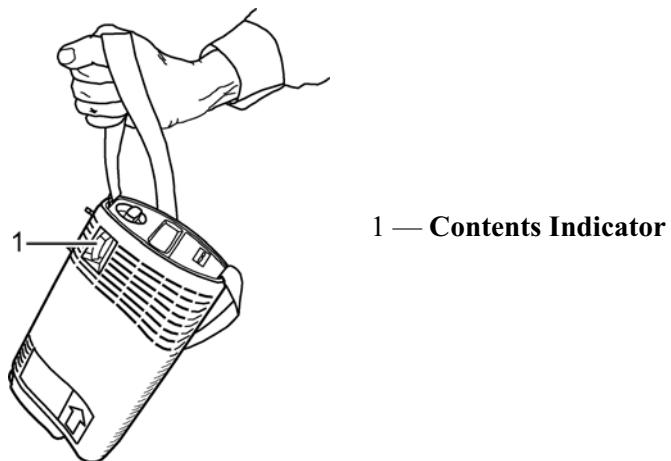

Figure 13: Checking Contents Indicator
9. Check the liquid oxygen contents indicator (Figure 13). The amount of liquid contained in the Companion Portable unit is measured by an internal scale which is built into the unit.